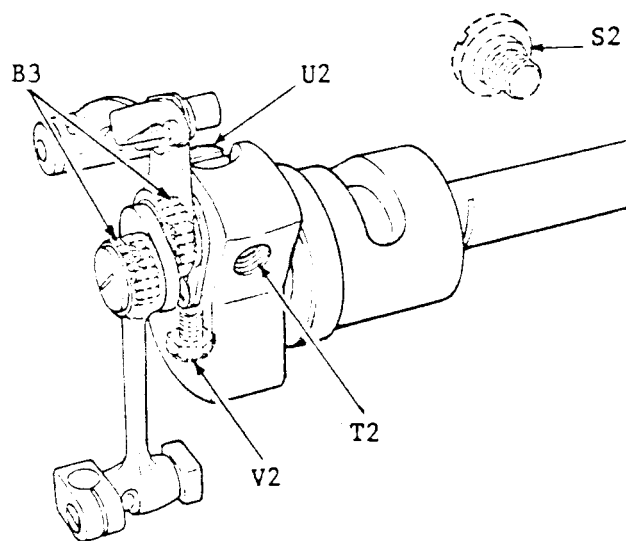

Fig. 22
1. Remove face plate and arm hole plug S2, Fig. 22 from machine.
3. Turn machine pulley as required to reach screw T2, Fig. 22, in needle bar crank through hole left by removal of plug S2. Loosen set screw T2.
4. Using wrench 545945 (through same hole) and turning machine pulley as required, loosen the large hexagon head clamping screw U2, Fig. 22 on needle bar crank.
CAUTION: DO NOT DISTURB the smaller hexagon head position screw V2, Fig. 22 which holds the needle bar crank at its correct position on the horizontal arm shaft.
6. Turn machine pulley as required to make set screw T2 in needle bar crank accessible through hole at S2, Fig. 22 in rear of machine head.